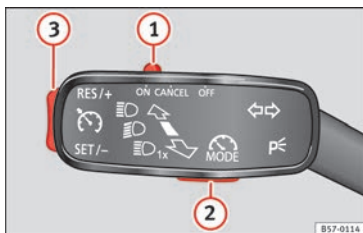

Fig. 188 On the left of the steering column: control and buttons to operate the speed limiter.
» Fig. 188 ① of the turn signal lever into position **CANCEL** or the third lever into pressure point **CANCEL** or press button ② on any lever.